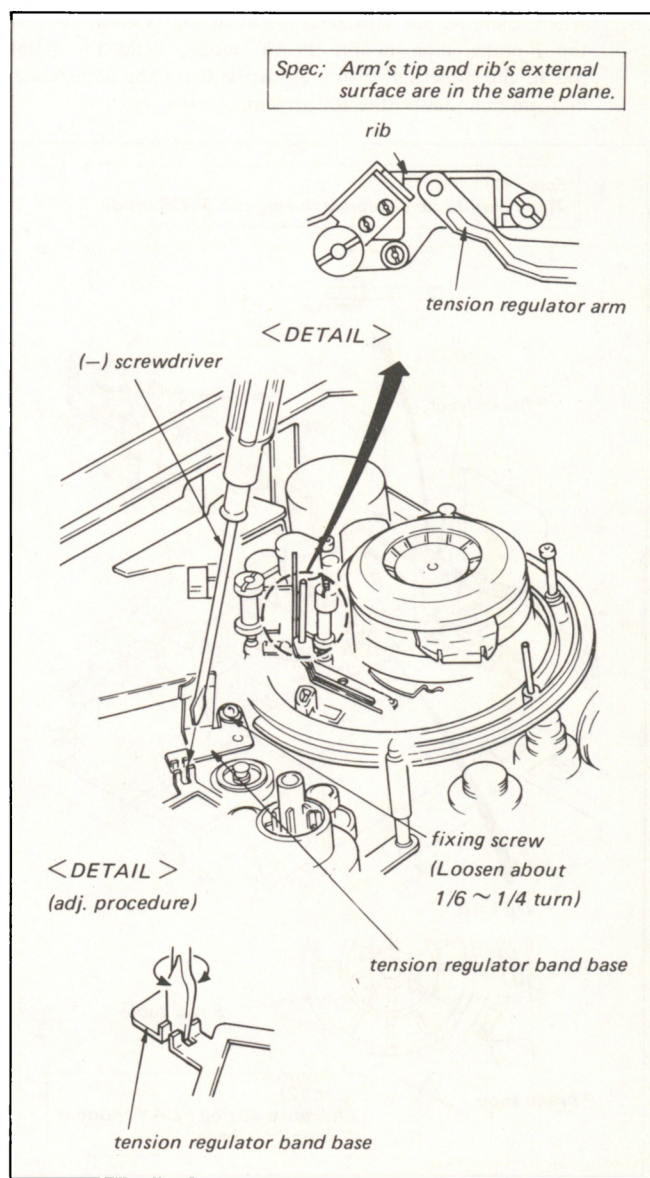

Fig. 6-13. Tension regulator arm position adj.
2. Confirm that the tip of the tension regulator arm satisfies the specification shown in Fig. 6-13.
4. Move the position of the tension regulator band base with a (-) screwdriver as shown in Fig. 6-13 so that the specification is satisfied.